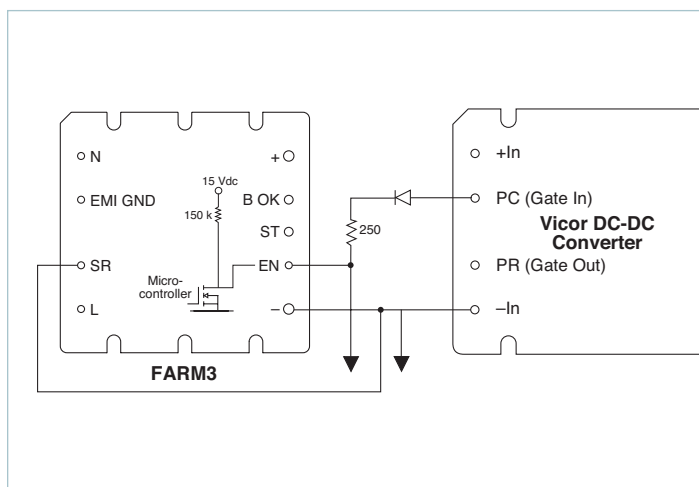

Figure 11 — Enable (EN) function
**Strap (ST) Pin:** In addition to input and output power pin connections, it is necessary to connect the Strap pin to the center junction of the series hold-up capacitors (C1, C2) for proper (autoranging) operation. Varistors V1 and V2 provide capacitor protection. The bleeder resistors (R1, R2) discharge the hold-up capacitors when power is switched off. Capacitors C7 and C8 are recommended if the hold-up capacitors are located more than 3 inches (75mm) from the output pins.
**Enable (EN) Pin:** The Enable pin must be connected to the PC or GATE-IN pin of all converter modules to disable the converters during power-up. Otherwise, the converters would attempt to start while the hold-up capacitors are being charged through the current limiting thermistor, preventing the bus voltage from reaching the thermistor bypass threshold, thus disabling the power supply. The Enable output (the drain of an N channel MOSFET) is internally pulled up to 15V through a 150kΩ resistor. (See Figure 11)